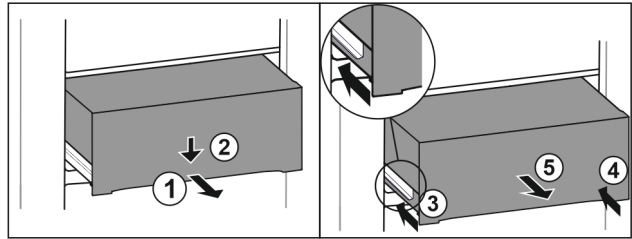

Fig. 129
- ▶ Pull out drawer half-way. Fig. 129 (1)
- ▶ Push the drawer down at the front. Fig. 129 (2)
- ▶ Push the left rail in by about 2 cm. Fig. 129 (3)
- ▶ Push the right rail in by about 2 cm. Fig. 129 (4)
- ▶ Remove drawer to the front. Fig. 129 (5)